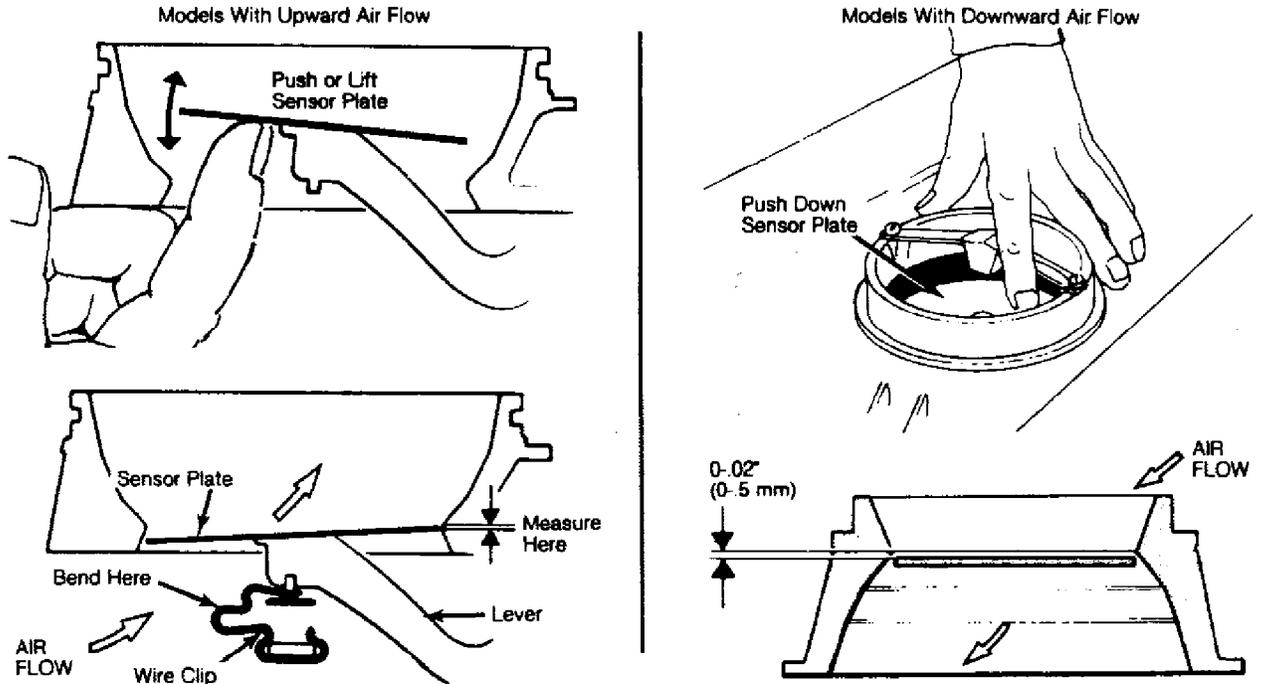

Fig. 7: Checking Air Flow Sensor Operation and Alignment
2) Using extreme care not to damage sensor plate, lift sensor plate slowly with magnet or pliers. Constant resistance due to control plunger pressure should be felt throughout range of lift. Release plate slowly, lever and control piston should follow. See Fig. 7.
6) Reinstall fuel distributor. Check air flow sensor plate alignment. Plate should be even with bottom rim or 0.02" (0.5 mm) lower. If not, bend spring clip to correct, or reposition stop pin (tap lightly with punch). See Fig. 7.